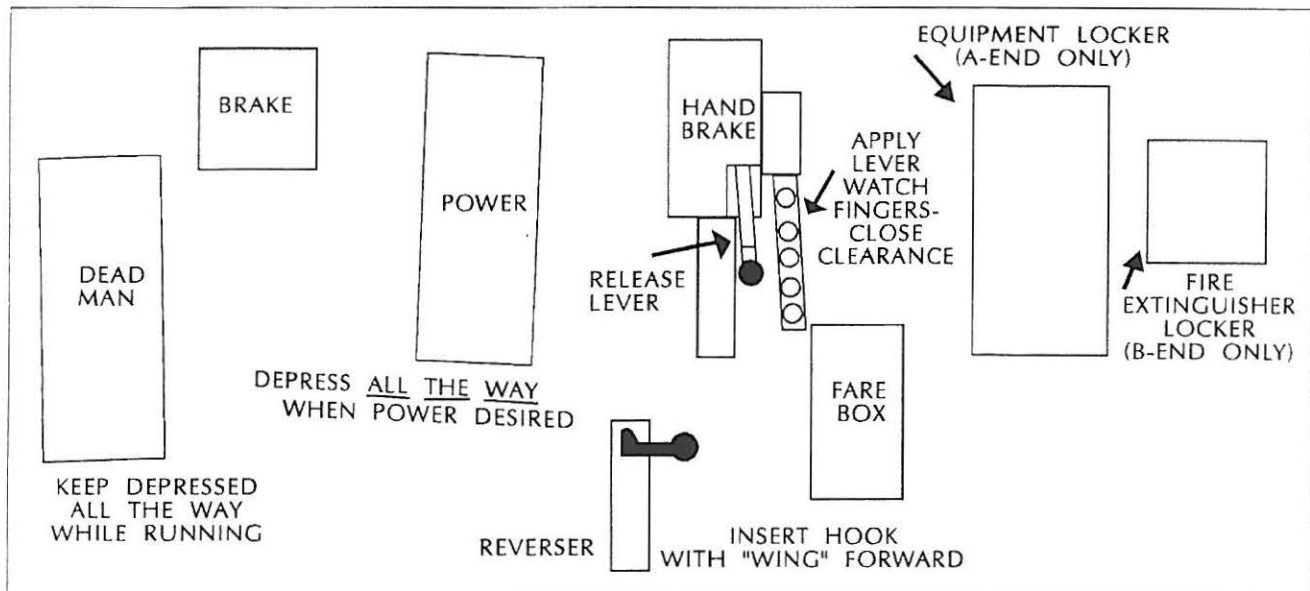

Figure 20. Control Layout, Floor Area
3. There are three pedals on the floor in front of you (figure 20). The left most pedal is the **Deadman**, the middle the **Brake** and the right pedal the **Accelerator**. Place your right foot on the brake pedal but do not press down. Push the **Deadman** down all the way and hold it down. The brake pedal will try to come up. Hold it down. Releasing the brake pedal at this point will release all car brakes.